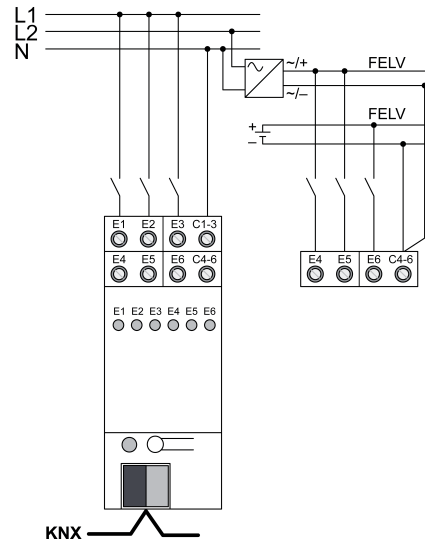

Figure 4: Joint connection of mains and low-voltage circuits
- i** If mains-powered power sources are connected at the same time, then installation rules according to FELV apply for the connected low-voltage circuits - irrespective of the safety of the current source (Figure 4).